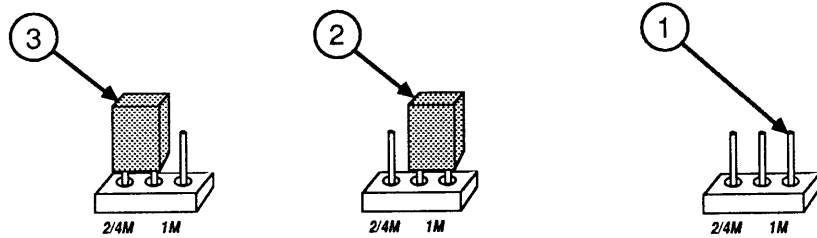

FIGURE 13
A Macintosh SE configured with 4 MB of RAM has a 1 MB SIMM installed in each of the four SIMM sockets on the logic board. Again, the jumper must be completely removed (Figure 13, #1).
- a) Locate the jumper (Figure 13, #2). Using pliers, completely remove the jumper from the three-pin jumper block.
a) Locate the jumper (Figure 13, #3). Using pliers, completely remove the jumper from the three-pin jumper block.